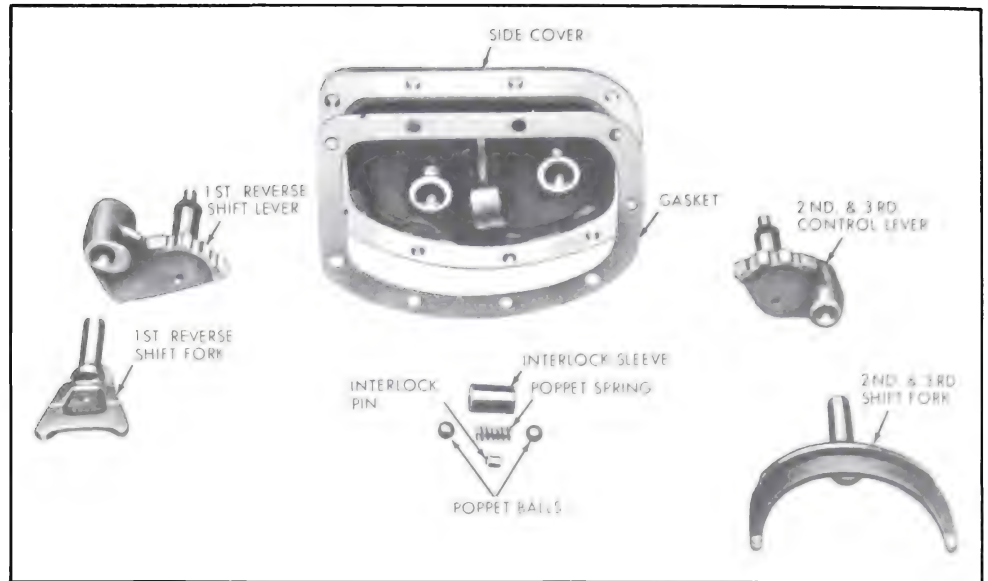

Figure 4-79—Transmission Side Cover
5. Carefully push the shifter shafts into cover, allowing the detent balls to fall free, then remove both shifter shafts. See Figure 4-79.
6. Remove interlock sleeve, interlock pin and poppet spring. See Figure 4-79.
ball and spring with screwdriver and push the shifter shaft fully in. See Figure 4-79.